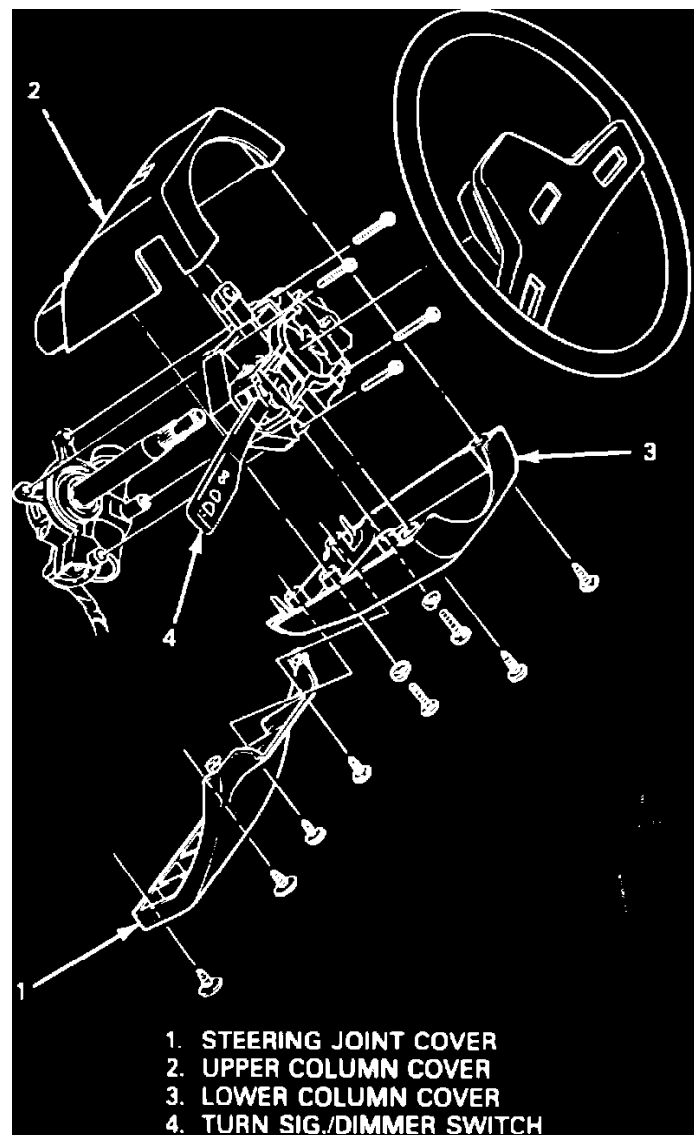

**Fig. 7 Adjusting air gap**
2. Using feeler gauge, measure air gap between pole piece tooth and pickup coil, **Fig. 7**. Air gap should be .008 - .015 inch (.2 - .4 mm).